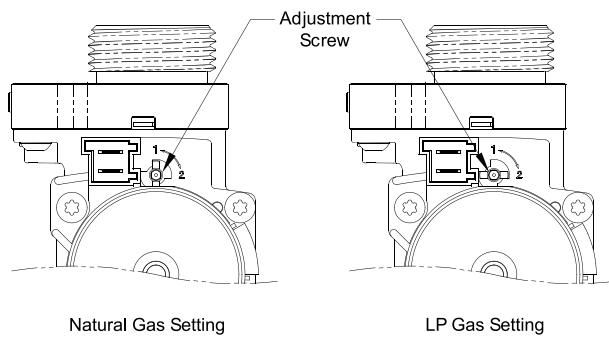

Figure 14-2: Gas Valve Fuel Setting
1. Use 2.5 mm hex wrench to adjust gas valve setting from "1" to "2" (Figure 14-2).